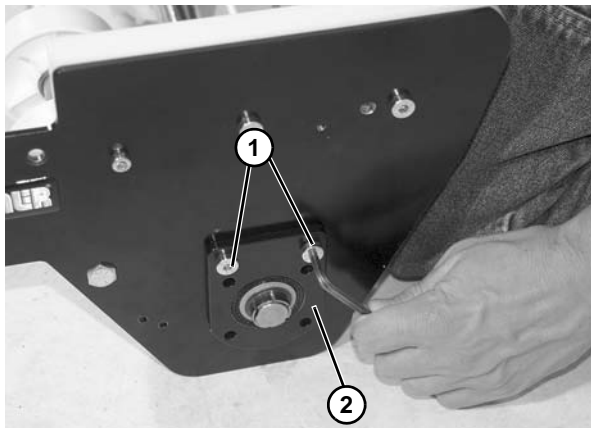

Figure 57
9. Remove two socket head screws (**Figure 57, item 1**) and remove plate (**Figure 57, item 2**).